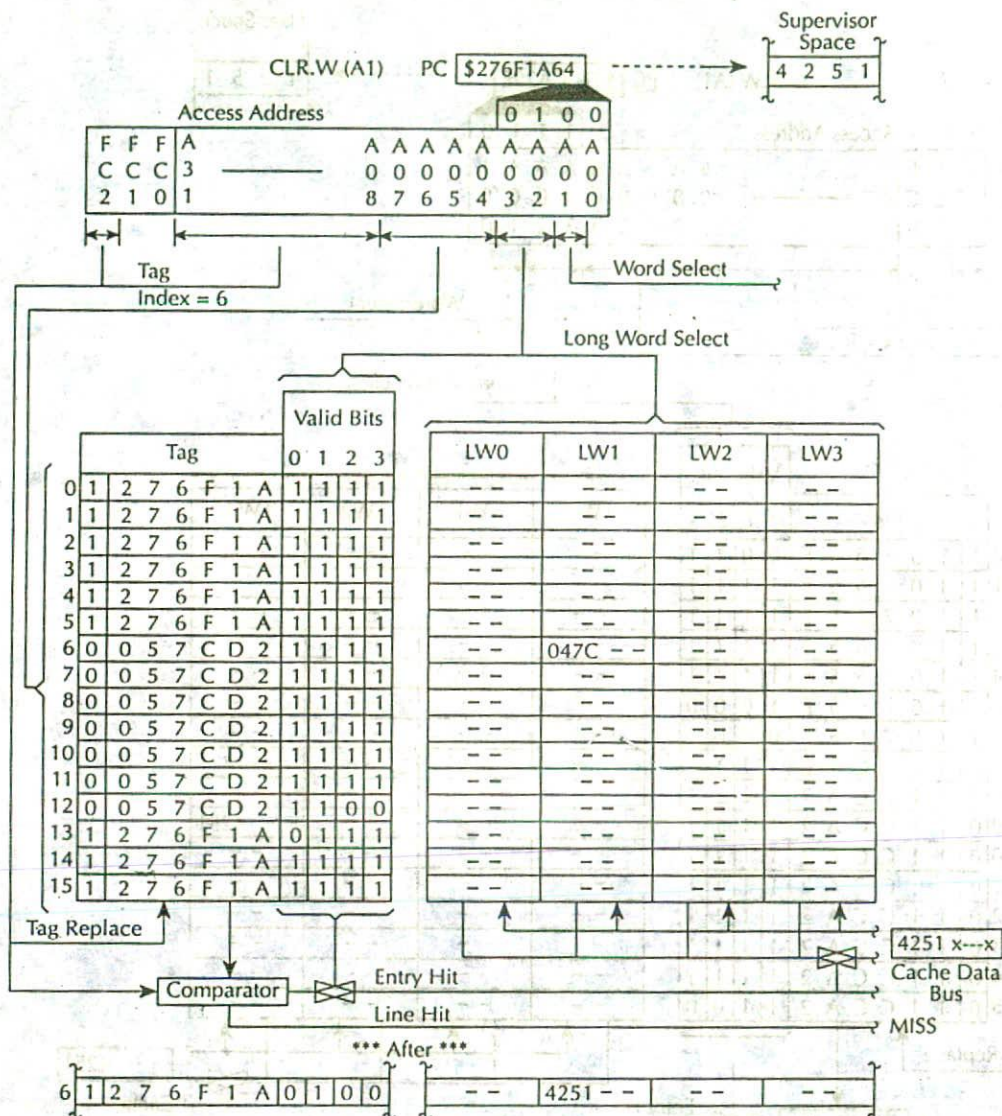

FIGURE 7.6 Instruction cache miss.
Figure 7.6 illustrates an instruction cache miss. In this case, the op code 4251_{16} for $CLR.W(A1)$ stored at the PC value of $276F1A64_{16}$ in supervisor space ($FC2 = 1$) is to be accessed. The 68030 outputs one on the $FC2$ pin and $276F1A64_{16}$ on the A31-A0 pins. A miss occurs since the tag in line 6 ($057CD2_{16}$) does not match the address bits A31-A8 ($276F1A_{16}$) and $FC2 = 1$ does not match the function code bit (0), the most significant bit in the tag field. Assume the cache is enabled and not frozen. The 68030 reads 4251_{16} into LW1 from external memory and updates